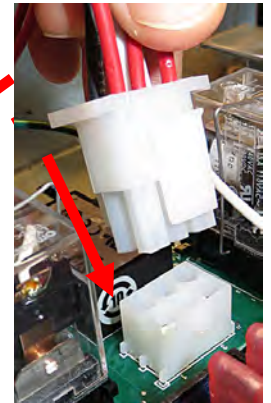

Figure 21
25. Plug the 6-pin connector from the previous step into the 6-pin connection on the new circuit board (see Figure 21).